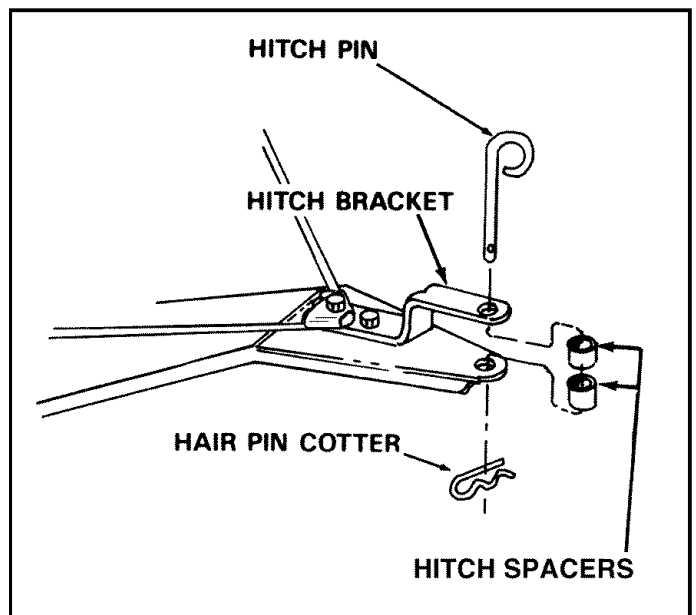

FIGURE 7
- Assemble the hitch pin, the two hitch spacers and the 1/8" hair cotter pin to the hitch bracket and hitch tongue as shown in figure 7.